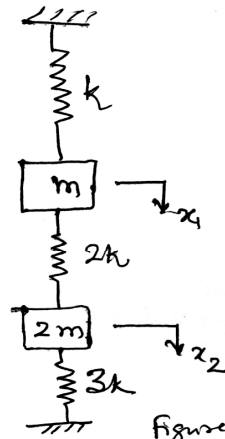

Figure 2 Q.7
7. Fig. 2 shows a spring mass system. Determine;